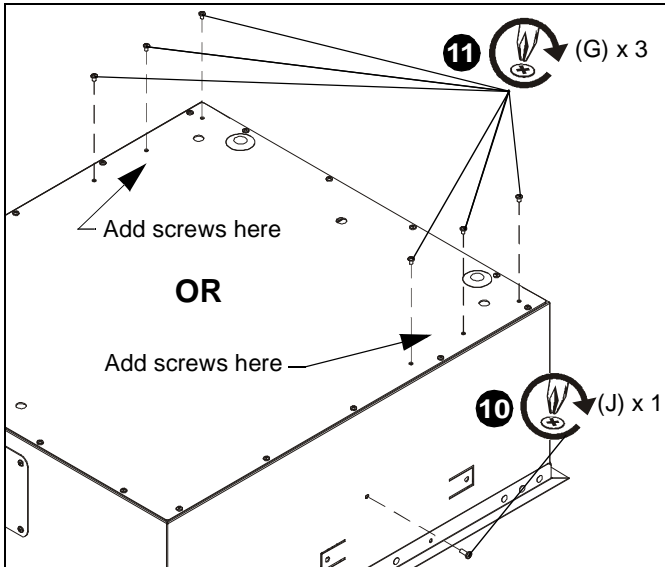

Figure 11
7. Replace loose end of lifting link (moved in Step 11 of **Removing Lift Weldment Assembly** section) and fasten in place using one 1/4-20 locknut (F).
9. Add two drops of Loctite (or similar) to one 10-24 x 1/2" buttonhead cap screw (J).
10. Fasten screw (J) with Loctite into side of lift. (See Figure 11)
11. Add three 8-32 x 5/16" Phillips screws (G) to top of lift on affected side of lift. (See Figure 11)